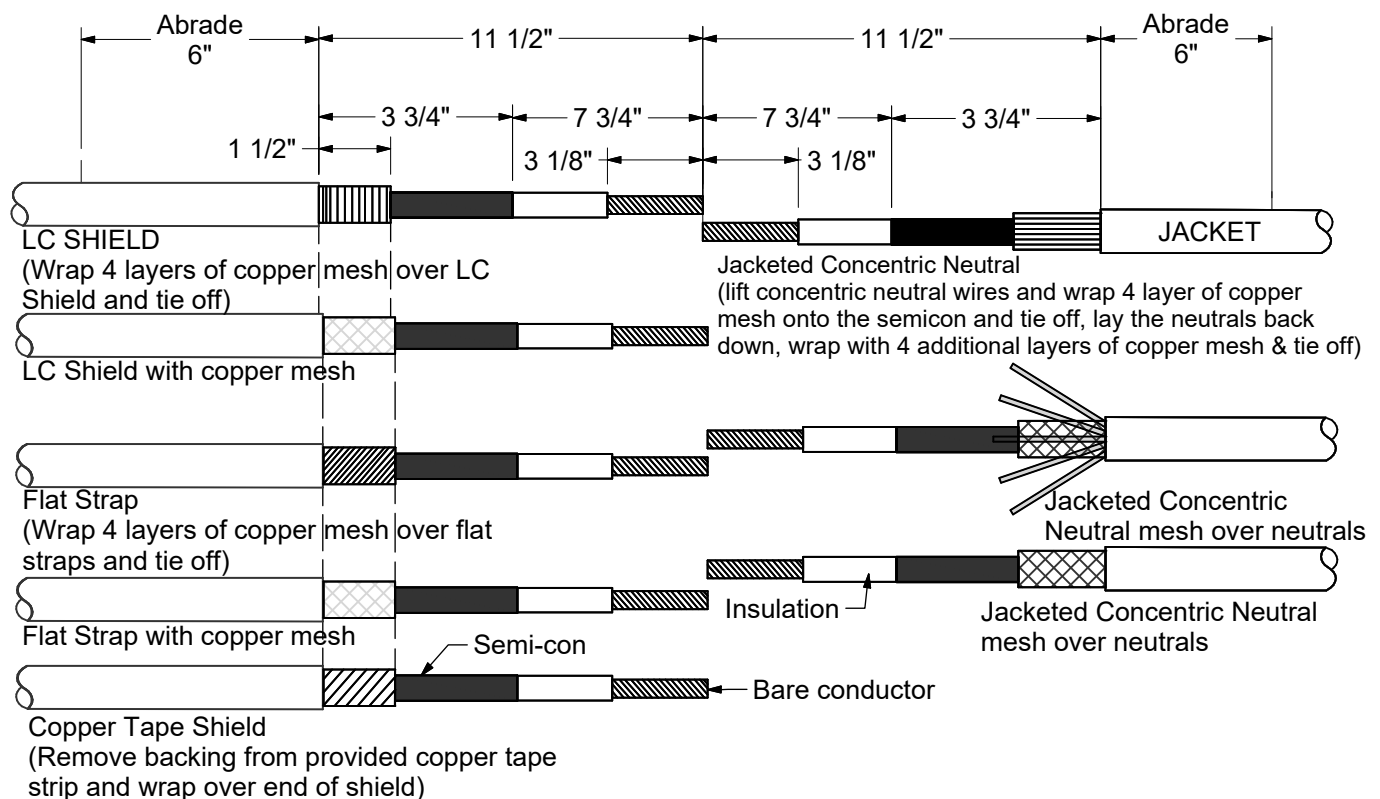

Figure 1
1. Prepare the Cables and Apply the Copper Mesh as Shown in Figure 1.
- The copper mesh installation requirements, for each jacketed cable type, are shown in Figure 1. If bare concentric neutral cable must be spliced, go to Step "1" for cable preparation instructions.
- Use Stock #22 05 213 or the aluminum oxide strip included in the splice kit to abrade/scuff the cable jacket, see Figure 1.